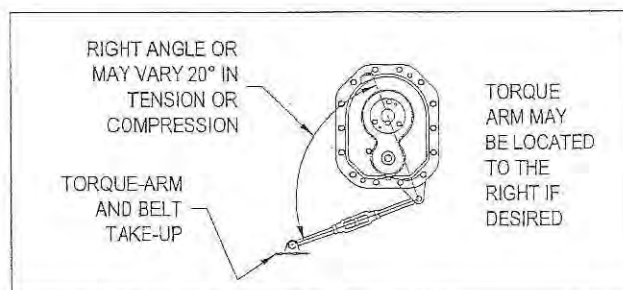

Figure 4 – Angle of Torque-Arm
7. Install torque arm fulcrum on a flat and rigid support so that the torque arm will be approximately at right angles to the centerline through the driven shaft and the torque arm anchor screw. (See Fig. 4) Make sure that there is sufficient take-up in the turnbuckle for belt tension adjustment when using V-belt drive.